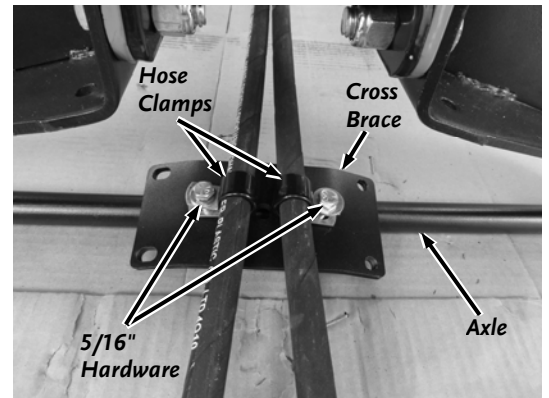

Figure 10
13. Place a Hose Clamp around each Hose near the Axle and loosely attach the Clamps to the Cross Brace with 5/16" Bolts (clamp side) and Washer and Locknut (bottom side) (**Figure 10**).